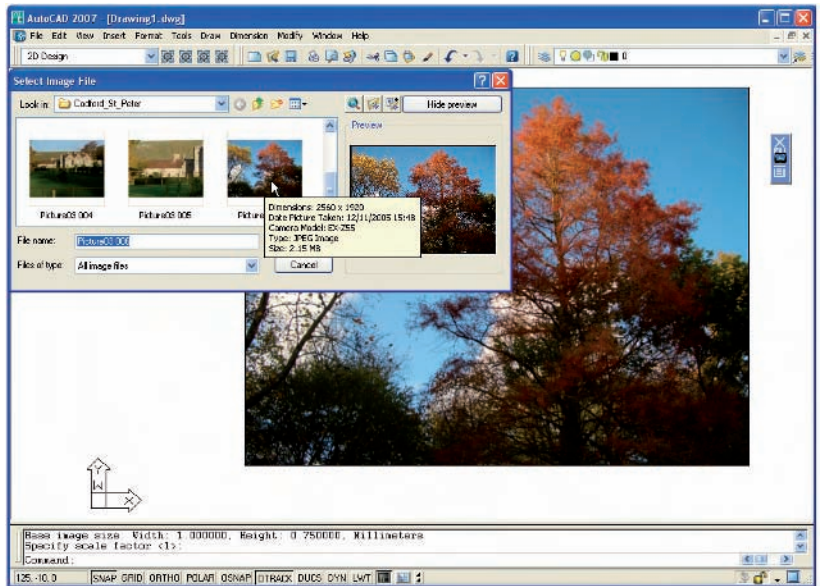

Fig. 10.26 Exercise 3 – example
3. Click **Raster Image . . .** in the **Insert** drop-down menu and insert a **JPEG** image (*.jpg file) of a photograph into the AutoCAD 2007 window. An example is given in Fig. 10.26.